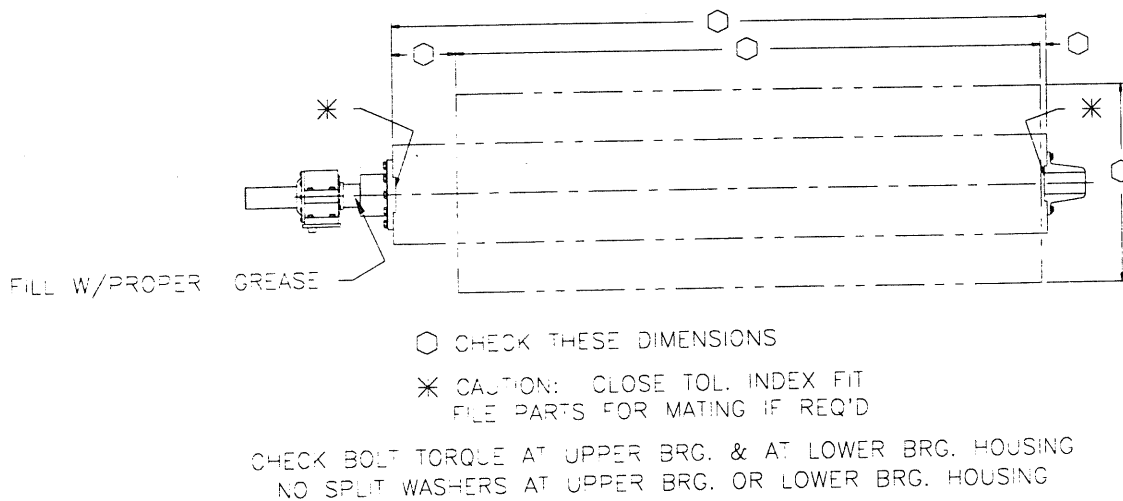

Figure D1
- b. With the screw assembly on the ground, check bolt connections with a calibrated torque wrench, Figure D1. The Drawings section has a chart with the torque values required at these connections.